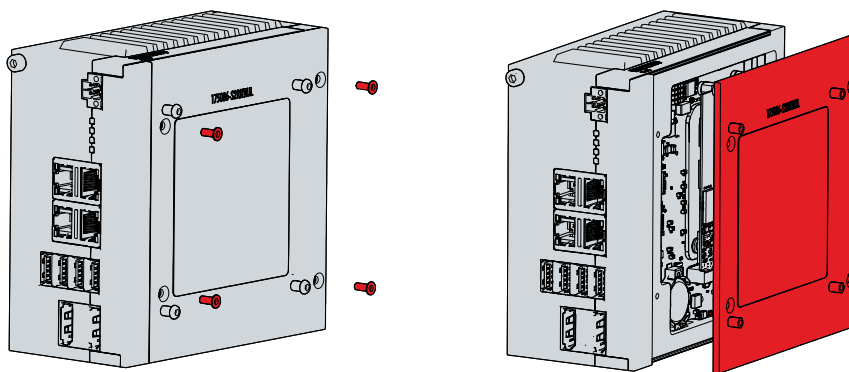

Fig. 19: Access to battery and storage media
You now have access to the battery (1) and storage medium (2) (see fig. 19).